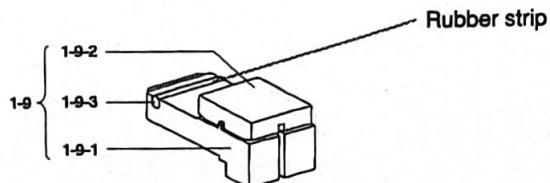

Fig. 3.5.3. Checking the rubber strip
- The rubber strip is not fitted into the slot correctly. Push the line deeper into the slot (see figure 3.5.3.)
- Check if the rubber strip is present (see figure 3.5.3.).